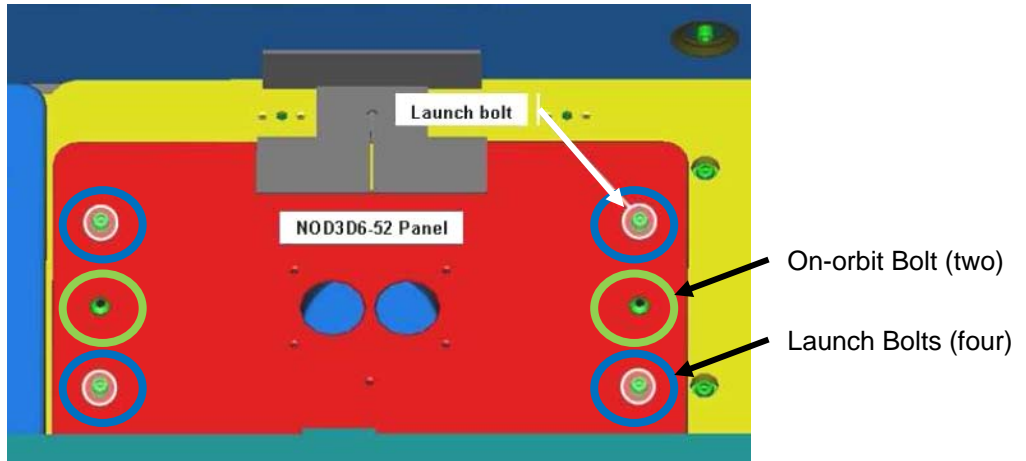

Figure 22.- NOD3D6-52 Launch Bolts.
- NOD3D6 17.6 Remove noncaptive Launch Restraint Bolts, Washers (four) from NOD3D6-52 Closeout Panel (Ratchet, 1/4" Drive; 5/32" Hex Head, 1/4" Drive). Refer to Figure 22 and 23.